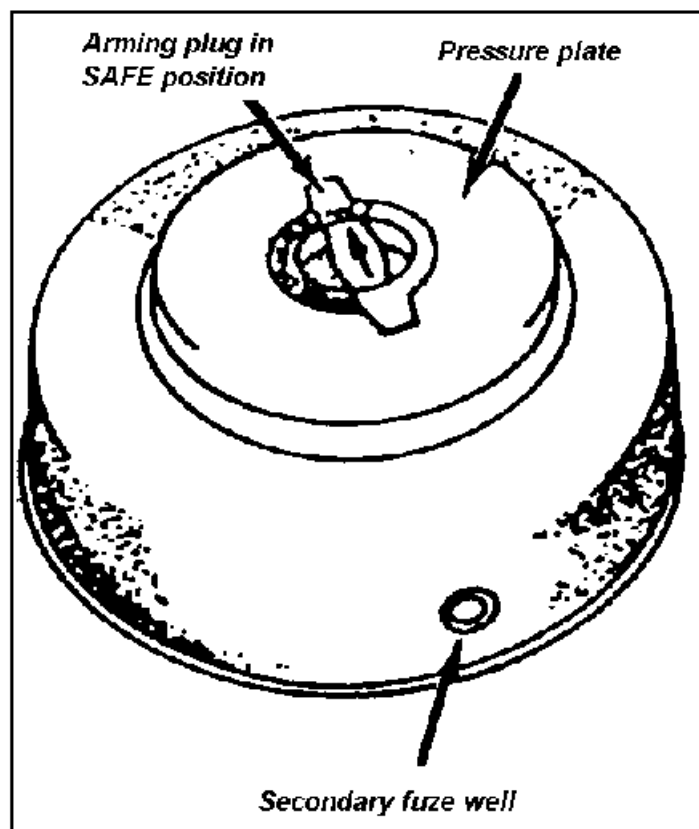

Figure 051-192-1105-1
**INSTALL AN M15 ANTITANK (AT) MINE USING THE M624 FUZE**
1. Inspect the mine (Figure 051-192-1105-1).